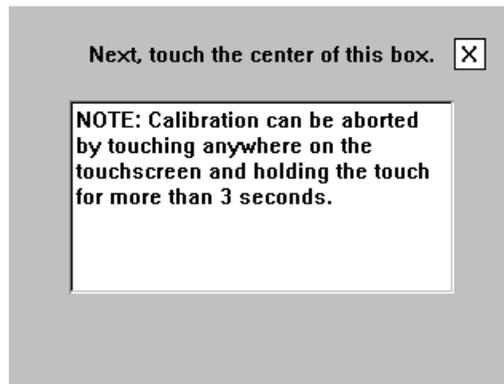

Figure 5-31: Second Touchscreen Calibration Screen
The second touchscreen calibration screen is displayed (Figure 5-31).
4. Use a stylus to gently touch the center of the box indicated in Figure 5-31.